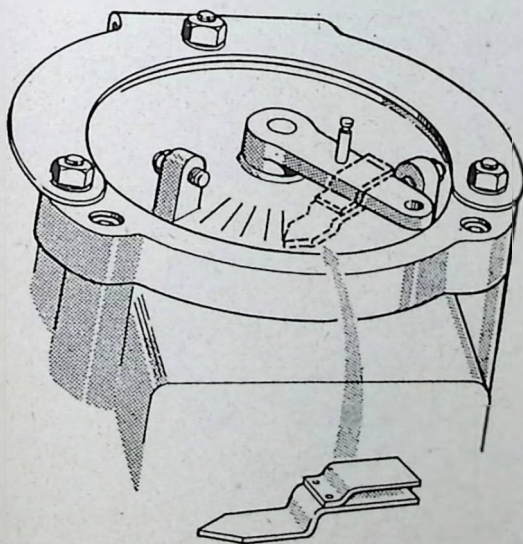

FIG. 35.—Checking free movement of Governor lever.
- (h) Attach suitable pointer to the governor arm as shown in Fig. 35.